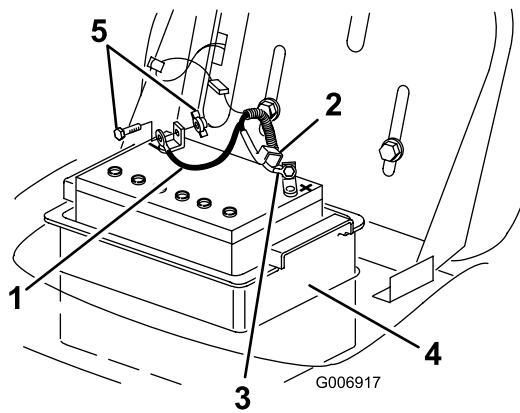

Figure 25
4. Disconnect the negative (black) ground cable from the battery post (Figure 25).
5. Slide the rubber cover up the positive (red) cable. Disconnect the positive (red) cable from the battery post (Figure 25).
6. Remove the battery box and battery from the chassis (Figure 25).
1. Put the battery into the battery box and install it into the chassis (Figure 25).
2. Using the bolt and wing nut, connect the positive (red) cable to the positive (+) battery post (Figure 25).
4. Using the bolt and the wing nut, connect the negative (black) cable to the negative (-) battery post (Figure 25).